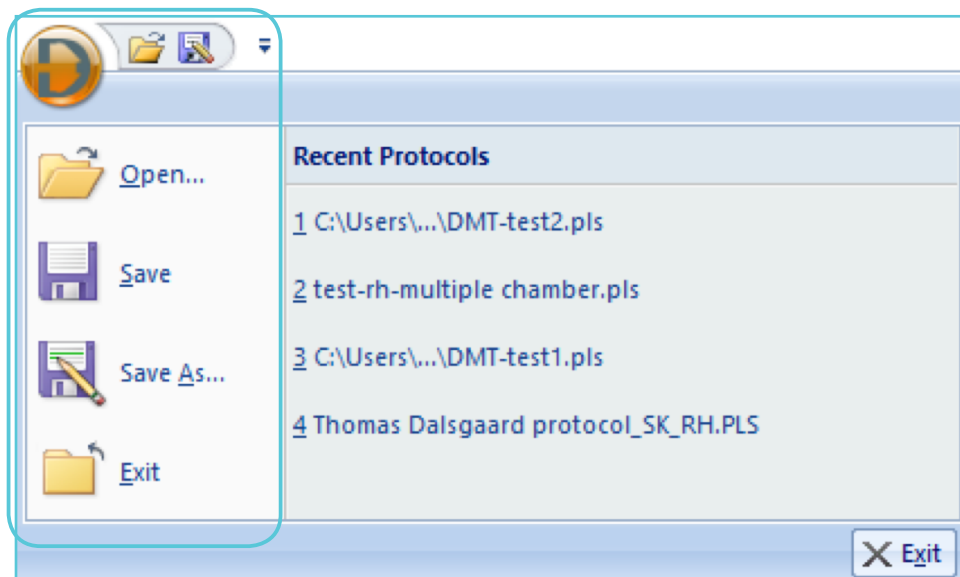

Figure 4.2.1
1. By Clicking on 'D' and selecting 'Save as' (figure 4.2.1), eg 'Protocol 1' the protocols loaded/created for all channels will be saved into a single file where the protocols for each channel can be identical or completely different (figure 4.2.2). Then, by selecting 'Open' an existing saved stimulation protocol file for all channels can be loaded.